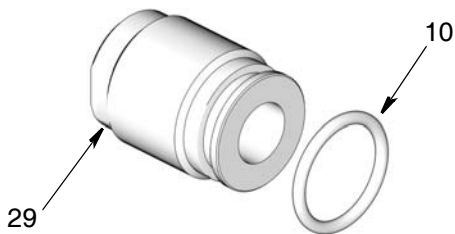

Fig. 34
4. Use a pick to remove the o-ring (10) installed around the top of the seal retainer (29) (Fig. 34). Grease the new o-ring included in the kit and install it over the seal retainer.